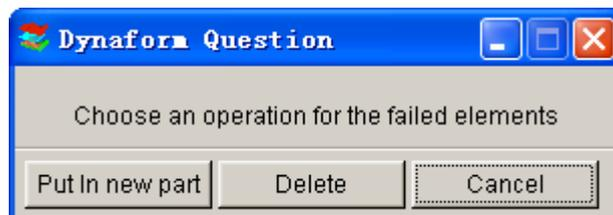

Figure 5.6.5 DYNIFORM Question
2. At same time, a DYNIFORM QUESTION window appears as in Figure 5.6.5. Select PUT IN NEW PART, and the CREATE PART dialog window appears. Select DELETE, and all failed elements are deleted. Select CANCEL, and the function exits.